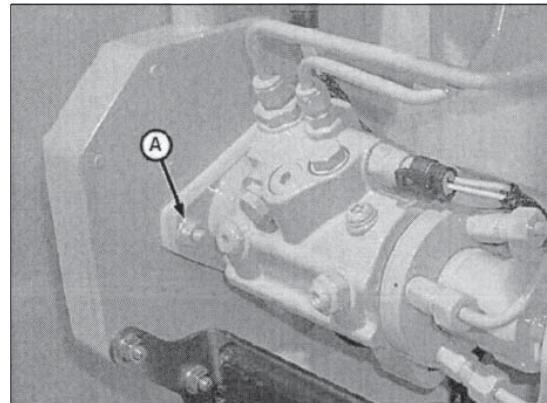

Figure 23 Reproduced by permission of Deere & Company, c.2004. Deere & Company. All reserved.
3. Install the pump onto the mounting studs and tighten the three pump mounting stud nuts (Fig. 23 A) to below specification. Position the drive gear while installing the pump.